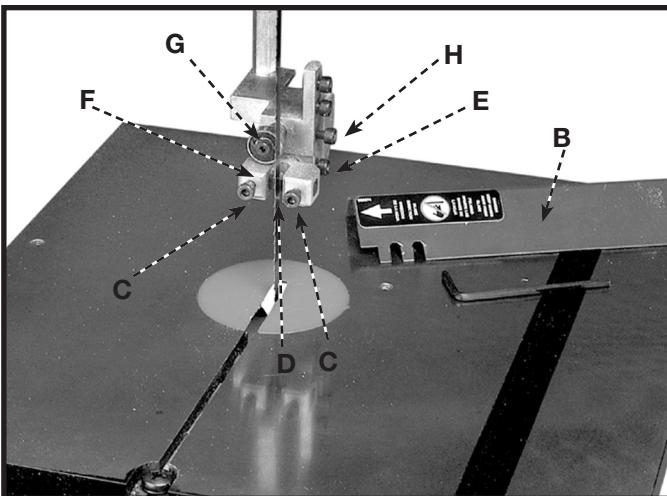
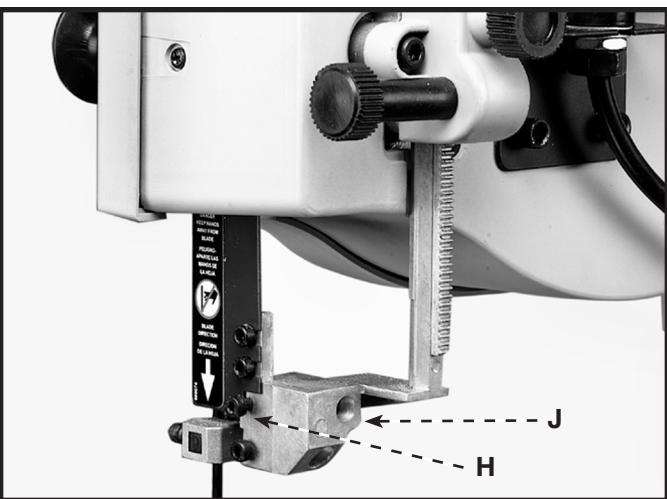

Fig. 27
Fig. 28
**WARNING** Upper blade guard (b) Fig. 27 is shown removed for clarity. Always make sure the upper blade guard is installed and properly adjusted before operating the band saw.
1. Loosen the two screws (C) Fig. 27, and adjust the blade guides (D) as close as possible to the sides of the saw blade, being careful not to pinch the blade. Tighten the two screws (C).
2. Loosen screw (E) Fig. 27, and move the guide bracket (F) in or out until the front edge of the guides (D) are just behind the "gullets" of the blade teeth. Tighten screw (E).
3. The upper blade support thrust bearing (G) Fig. 27 prevents the saw blade from being pushed back too far when cutting. The support bearing (G) should be adjusted approximately  $1/32"$  behind the blade. The blade should also overlap the outside diameter of the ball bearing by approximately  $1/8"$ . To adjust:
4. Loosen screw (H) Fig. 28, and slide support bearing (G) in or out until it is approximately  $1/32"$  behind the saw blade.
5. The upper blade support bearing (G) Fig. 27, is set on an eccentric shaft. To change position of bearing (G), use a straight screwdriver, rotate shaft (J) Fig. 28, until the blade properly overlaps the support bearing. Then tighten screw (H).